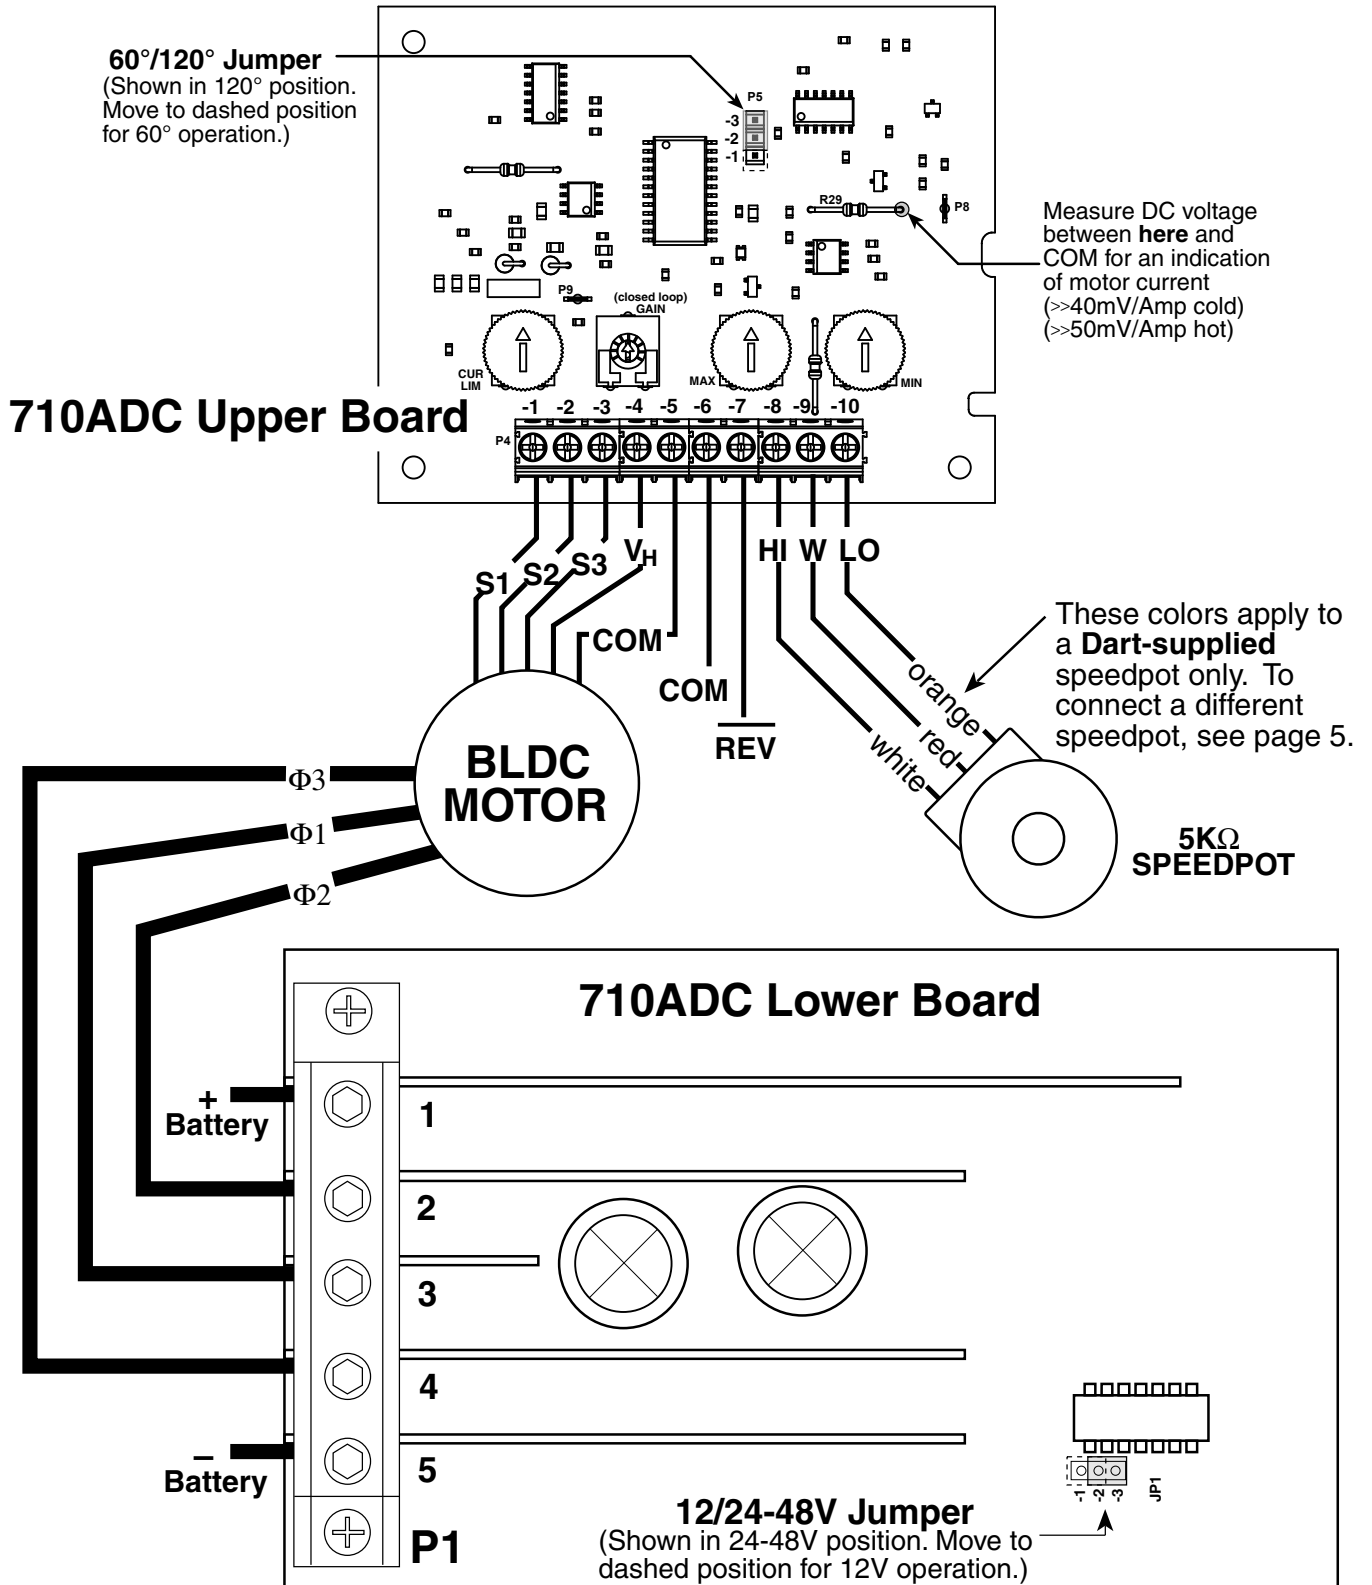

Figure 1
All BLDC motors, no matter what the hook-up status, are connected to the 710A Series control as shown in figure 1 (page 4). Power is connected to terminals P1-1 and P1-5 on the lower board. The power should be off until the hook-up procedure is complete.
There is a jumper on the **lower board** to accommodate two ranges of dc source voltage. This jumper is shown near the bottom of Figure 1 (page 4). If you have a 12 volt DC source, the jumper must be placed in the left-most (dashed) position, as illustrated in Figure 1. With DC sources from 24 to 48 volts, the jumper must be placed in the right-most (solid) position, which is also illustrated in Figure 1.
There is a jumper on the **upper board** to switch between 60° and 120° Hall sensor spacings. This jumper is shown in the upper left portion of Figure 1 (page 4). Place this jumper in the left-most (dashed) position for 60° operation, or in the right-most (solid) position for 120° operation.
Once the spacing is determined, return to the section "60°/120° Sensor Spacing" (page 5 above) and make sure the control is set correctly. Return to Figure 1 and connect the sensors to terminals P4-1 through P4-3. Notice that for the 60 degree spacing there is a specific sensor line that leads the sequence, followed by a line lagging by 60 degrees, and a third line lagging the second by 60 degrees. It is important that the middle line in the train be connected to terminal P4-2.
After the sensors are connected, attach the sensor power line (notated by  $V_H$  in Figure 1) to terminal P4-4. The sensor common line (notated by COM in Figure 1) is connected to terminal P4-5. Now attach the three motor armature wires and test for proper hook-up.
- 1) Refer to figure 1 on page 4. Measure the DC voltage (with reference towards COM) at the point indicated on the upper board, then divide by 40mV to obtain the motor current in amperes.
Controls designated 711ADC are closed loop devices. These controls use additional circuits to transform the sensor signals into tachometer information, and accurately control the speed of the motor. Hook-up procedures are identical to the open loop series, however, there is an extra trimpot labeled **Closed Loop Gain** (Shown in Figure 1 on page 4). This allows the flexibility to properly control motors in a wide spectrum of speeds.
- 1) Set the Maximum Speed (MAX.) trimpot to the position shown in Figure 1 on page 4.
- 3) Advance your speedpot to the fully clockwise (CW) position. Your motor should now be spinning at its maximum speed.\*